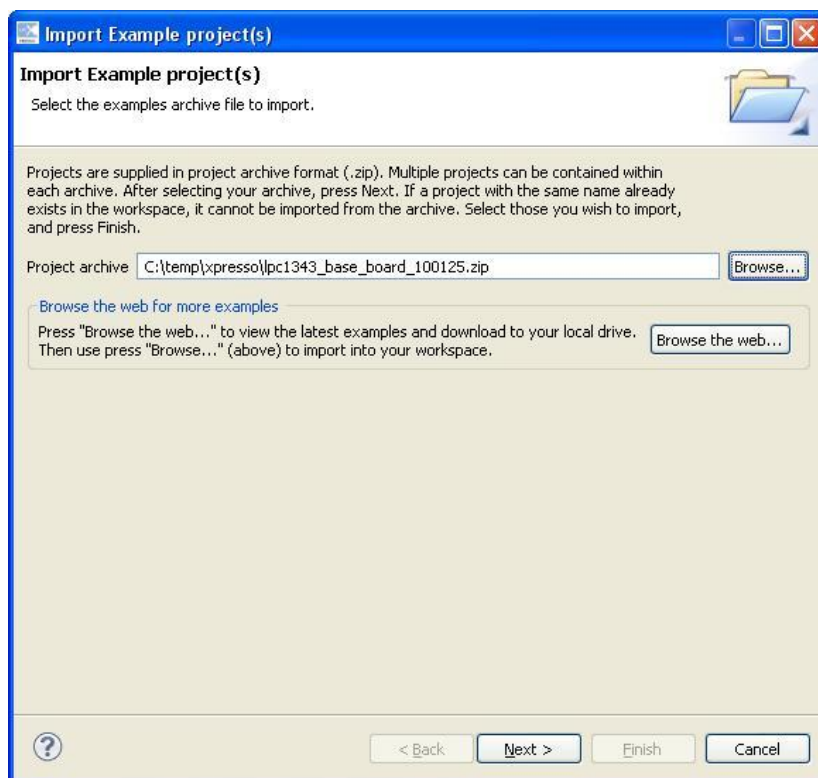

Figure 12 – LPCXpresso Import Dialog
4. A dialog window will be opened, see Figure 12. Browse to the previously downloaded zip file. Select the file and press the Next button followed by the Finish button.